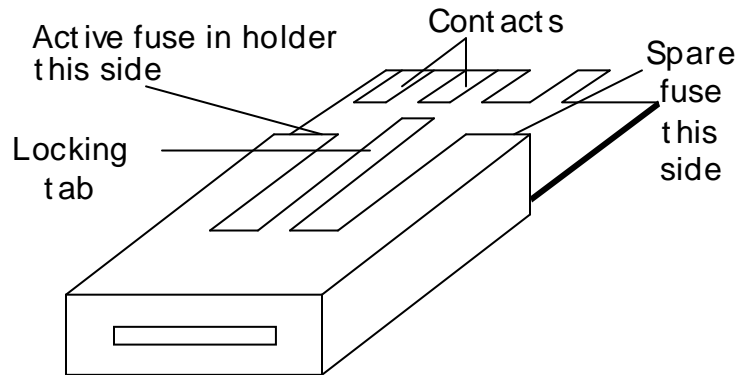

Figure 4 Fuse Drawer
2. Remove the fuse drawer by inserting a small flat head screwdriver behind the small tab to force the draw outward. Refer to Figure 4.